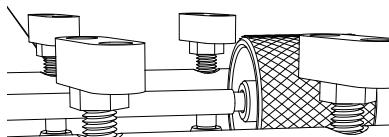

fig. 3
10. Turn knurled rollers until seam is almost closed, leaving a slight gap to prevent chipping while dry-fitting. (see fig. 3)